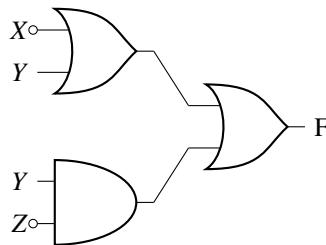

Fig. 3.2
1. Obtain the Boolean Expression for the logic circuit shown below in Fig. 3.2.